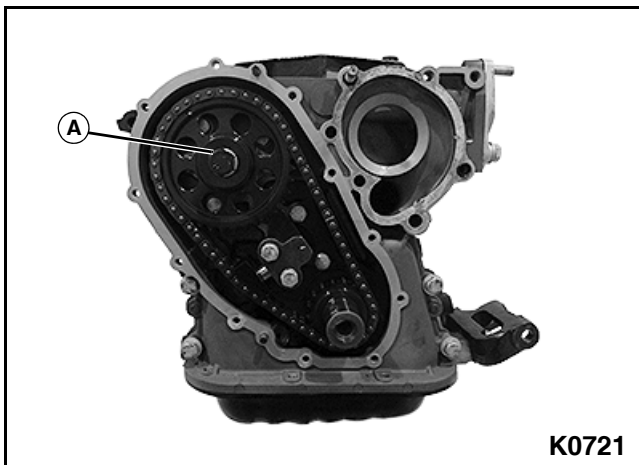

Figure 3-162
1. Remove one retaining bolt, lock washer, and flat washer (A) fastening camshaft sprocket to camshaft. See Figure 3-162.